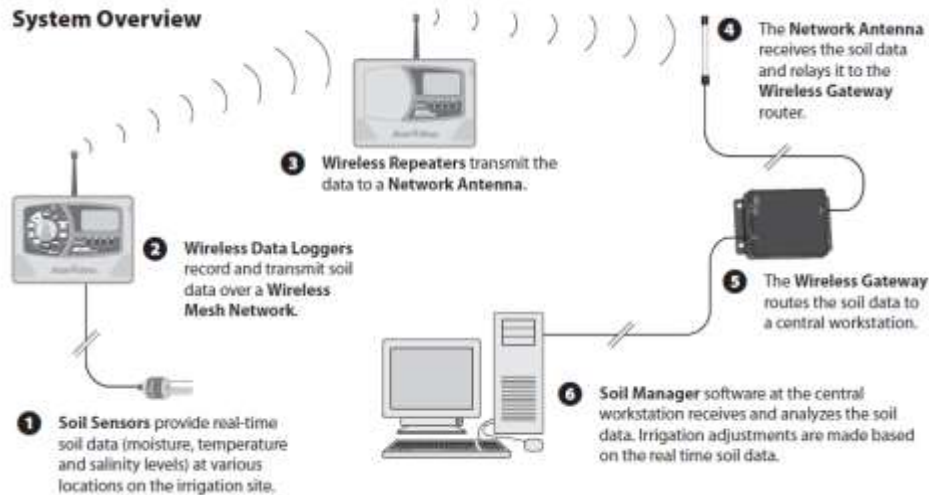

Figure 1
The Wireless Gateway is item 5 in Figure 1. It is the device, connected to the central PC that receives and passes the data from the wireless network to Soil Manager.